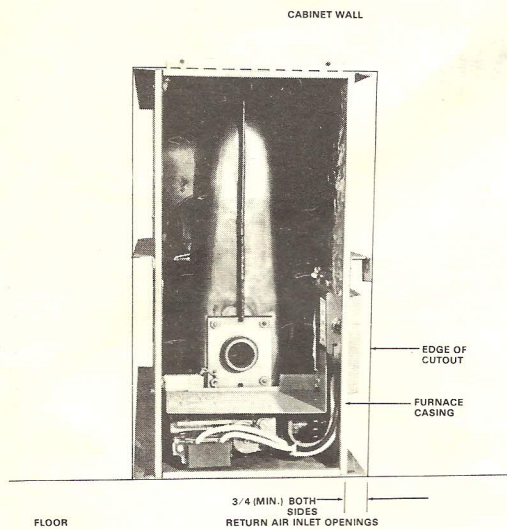

Figure 2
For additional clearance from furnace front panel to combustibile material, see Figure 2.
Provisions for return air is thru slots in both sides of the front panel. Spacers of 3/4 inch width are secured to both sides of the outer casing to provide a path for return air to the rear of the furnace air inlet openings to the fan. The 3/4 inch minimum spacing on both sides of the furnace must be maintained in order for the furnace to operate properly. See Fig. 2 and 3.
3. Refer to Figures 2 & 4 and make certain the minimum clearances to ceiling and side walls are maintained as